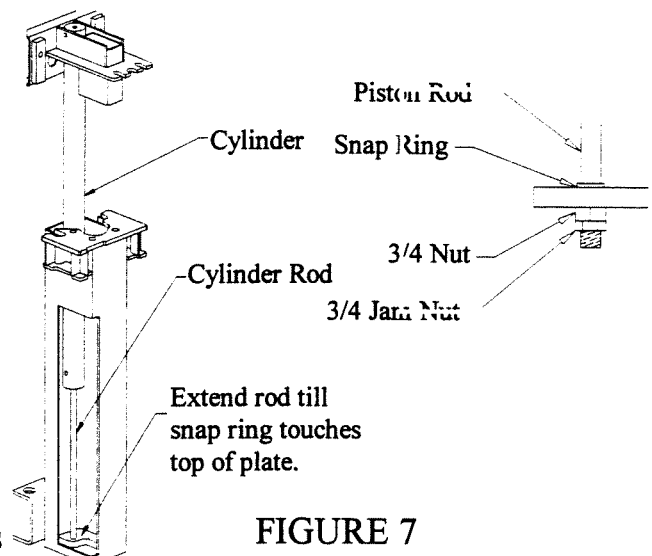

FIGURE 7
9. Pull each cylinder rod down and insert the threaded end into the mounting holes at the carriage base. Make sure the snap ring on the cylinder rod is in its groove. Pull the rod through the hole until the snap ring on the rod comes in contact with the carriage base plate. See Figure 7.